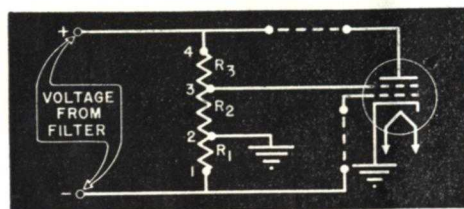
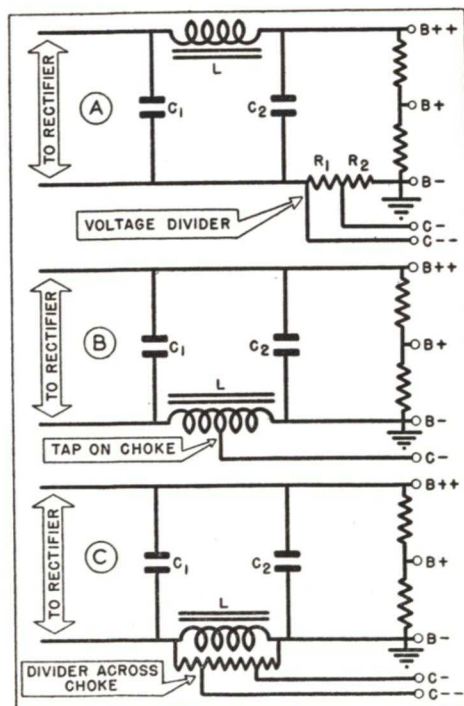

FIG. 24. A complete voltage divider.
FIG. 25. Three ways of getting bias from the power pack.
► A practical application of the voltage divider is shown in Fig. 24. Here, resistor R_2 is the bleeder. Series resistor R_3 provides the correct screen voltage, and the C bias voltage is produced across R_1 . Notice that both point 2 on the voltage divider and the cathode of the tube are grounded. The cathode and bleeder current electrons come from the minus supply terminal and flow through R_1 to point 2. Here they divide, the cathode electrons flowing through the chassis to the cathode, and the bleeder electrons continuing on through R_2 .
► Fig. 25 shows three common ways of getting bias voltage from the power pack. In Fig. 25A, resistors R_1 and R_2 (this may be a single tapped resistor) are placed in the power supply B—lead. Their action is similar to that of R_1 in Fig. 24, except that the cathode currents of all the tubes now flow through the resistors. Grids of tubes which need the full voltage for